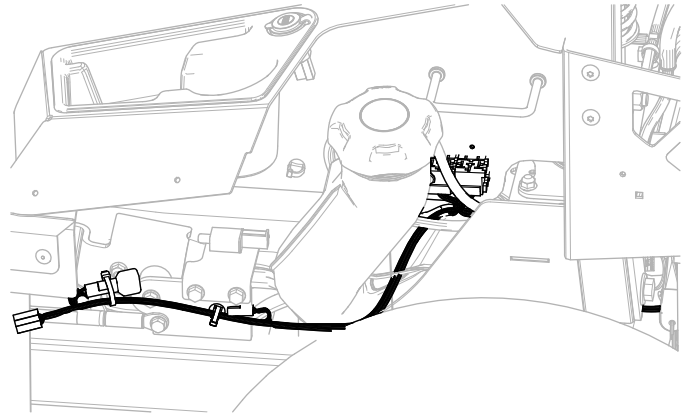

Figure 13
2. Route the wire harness (Figure 13) along the left side of the frame, through the push-mount fastener you installed in step 1.